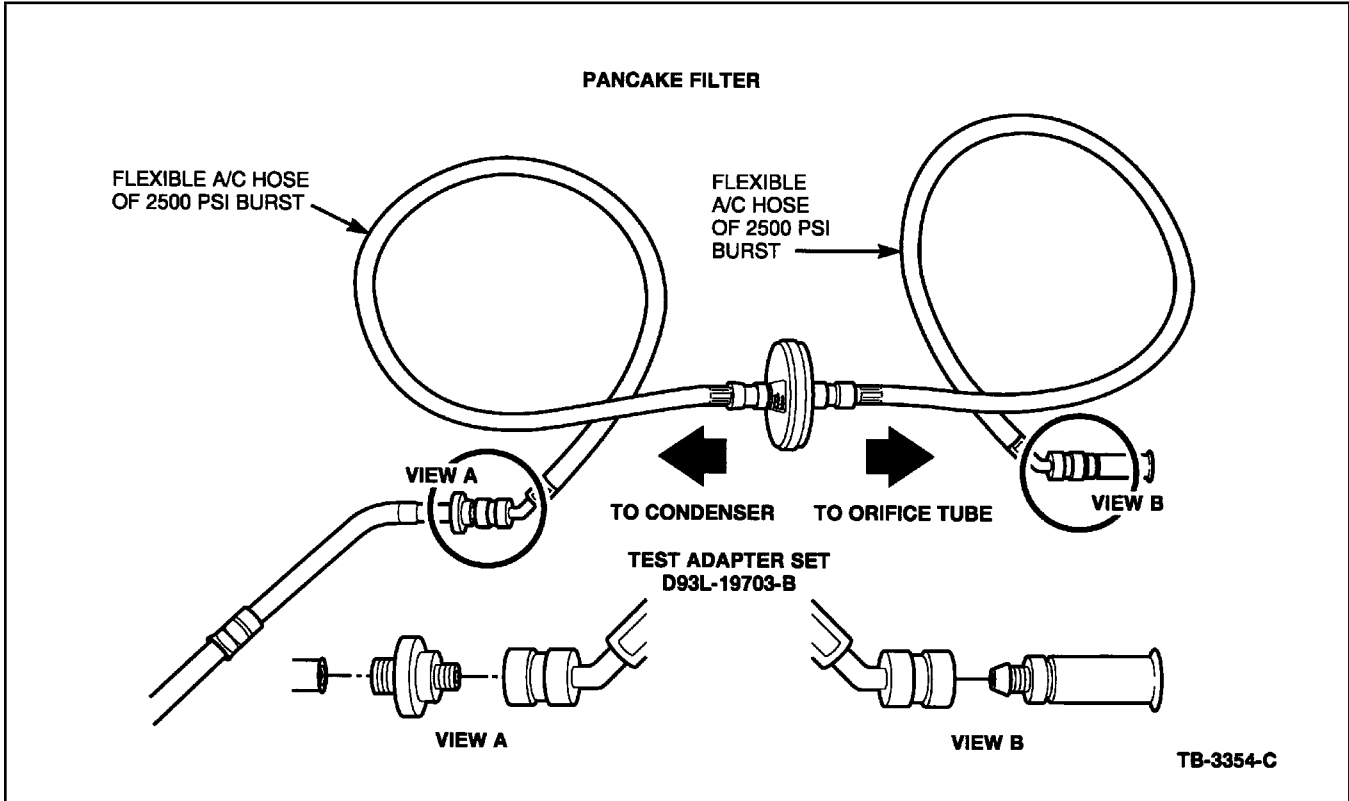

Figure 1 - Article 98-12-5
5. Install pancake filter in the liquid line between the condenser and the orifice tube, Figure 1.